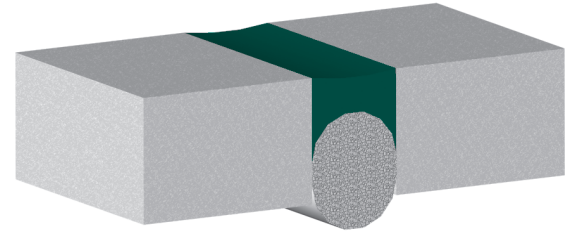

FIGURE 3.2 – BUTT JOINT
The joint configuration and sealant width and depth should be determined by cutting out samples in representative areas and measuring the sealant profile. There are four basic types of joint configurations listed below (refer to Figures 3.2 to 3.5):
- 1) Butt Joint (Figure 3.2)